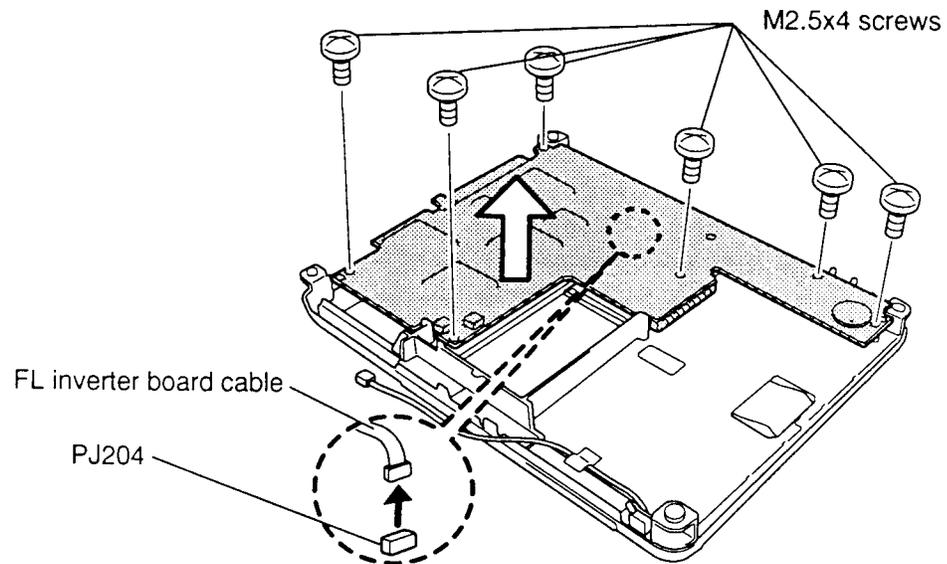

Figure 4-10 Removing the Upper System Board
6. Remove the **six brass M2.5x4 screws** securing the upper system board (Figure 4-10).
7. Carefully rotate the upper system board out of its seating and disconnect the **FL inverter board cable** from **PJ204** (Figure 4-10).
1. Connect the **FL inverter board cable** to **PJ204** (Figure 4-10).
2. Place the upper system board on the lower system board (Figure 4-10).
4. Secure the **six M2.5x4 screws** on the upper system board (Figure 4-10).